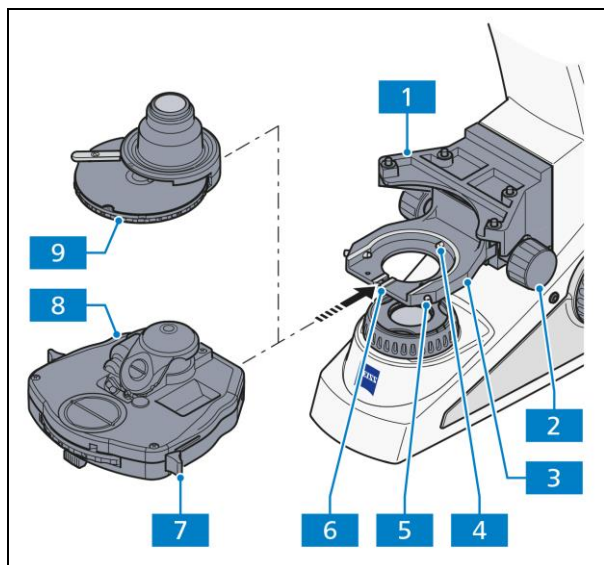

Fig. 3-13 Attaching the condenser
- Swivel out the front lens (if shiftable) on the condenser using the lever (Fig. 3-13/7).
- Unscrew both centering screws (Fig. 3-13/5) on the condenser carrier until their ends are no longer visible.
- Using the knurled knob for vertical adjustment (Fig. 3-13/2), push the condenser carrier (Fig. 3-13/3) down as far as it will go. If using a low-power system, make sure that this does not come to rest on the luminous-field diaphragm.
- Insert the condenser (Fig. 3-13/8 or 9) between the condenser carrier (Fig. 3-13/3) and the stage carrier (Fig. 3-13/1). In doing so, align the screwed stud bolt on the underside of the condenser with the groove (Fig. 3-13/6).
- Press the condenser with the dovetail ring against the mainspring (Fig. 3-13/4) of the condenser carrier until the condenser sits horizontally on the condenser carrier.
- Position the condenser on the carrier so that the screwed stud bolt sits against the groove (Fig. 3-13/6) at the front.